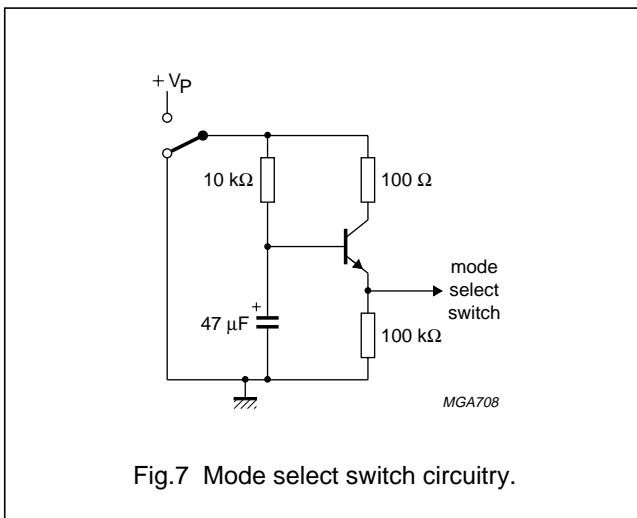

Fig.7 Mode select switch circuitry.
- External timing circuit (see Fig.7).
The circuit in Fig.7 slowly ramps up the voltage at the mode select switch pin when switching on and results in fast muting when switching off.